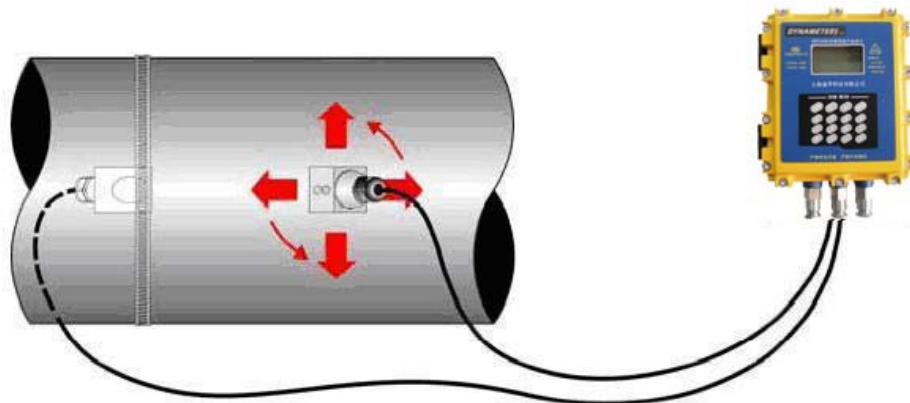

Figure 2.6
6. Place the downstream transducer on the pipe at the calculated transducer spacing. See **Figure 2.6**. Using firm hand pressure, slowly move the transducer both towards and away from the upstream transducer while observing Signal Strength. Clamp the transducer at the position where the highest Signal Strength is observed. Signal Strength of between 60 and 95 percent is acceptable. On certain pipes, a slight twist to the transducer may cause signal strength to rise to acceptable levels.